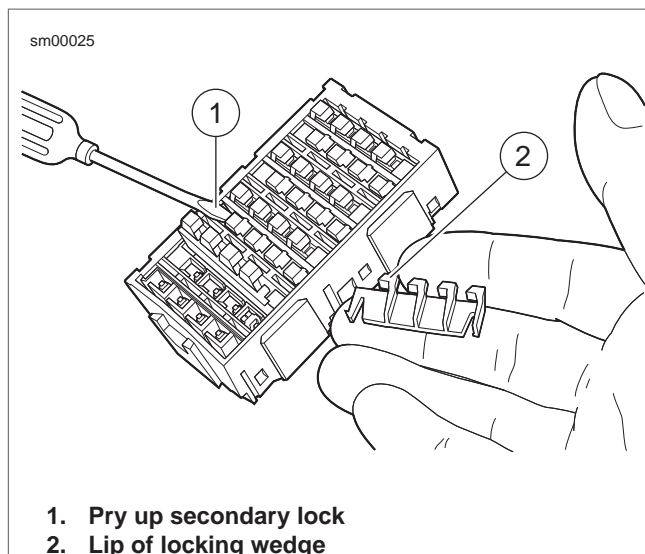

Figure A-21. Fuse Block: Remove Secondary Locks
1. See Figure A-21. To remove secondary locks, insert end of small flat blade screwdriver (1) under lip of locking wedge (2) and gently pry up secondary lock.